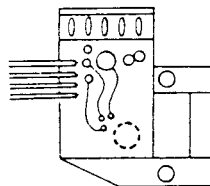

Fig. 2.10
- (1) When installing a new Laser Pickup Ass'y you must connect its three connectors (CN-101, CN-102 and CN-103) to the Servo P.C.B. Ass'y first.
- (2) Then using a grounded tip soldering iron only, remove the short-circuiting solder in the area of the dotted circle as shown in Fig. 2.10; this small P.C.B. which is incorporated with the Laser Pickup Ass'y.
NOTE: THE LASER PICKUP ASS'Y STOCKED ASSPARE PART, MUST BE SHORTED TO DOTTED CIRCLE OF THE SMALL P.C.B. WHICH IS INCORPORATED WITH THE LASER PICKUP ASS'Y AS SHOWN IN Fig. 2.10.